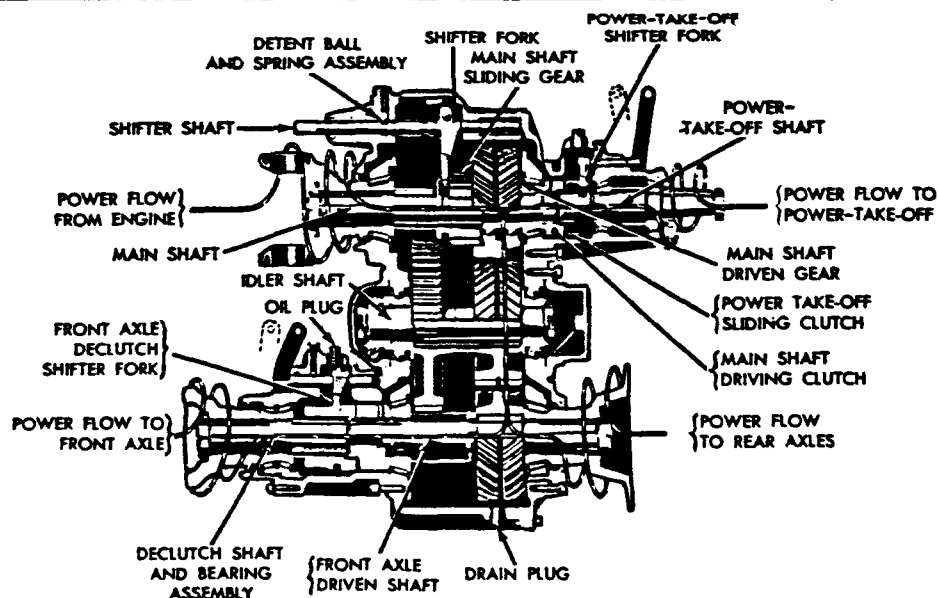

Figure 3. Transfer Case-Sectional View.
- (3) Neutral. Shifting into neutral moves the shifter fork to middle position, moving the main shaft sliding gear to a position between the idler gear and idler shaft low speed gear engaging neither of the gears. With the main shaft sliding gear in this position, no power is transmitted to the front axle drive shaft.
- (4) Front axle declutch.
- (a) Front axle engaged. Moving the front axle declutch gear shift lever into engaged position moves the front axle declutch shifter fork (fig. 3) in the transfer backward toward the front axle driven shaft. This causes the declutch shaft sliding clutch to engage the front axle driven shaft driving clutch to actuate the declutch shaft and the front axle.
(5) Power-take-off.
- (a) Engaged. Moving the power-take-off gear shift lever into engaged position moves the power-take-off shifter fork (fig. 3) inward toward the main shaft. The power-take-off shaft sliding clutch then engages the main shaft driving clutch actuating the power-take-off shaft.